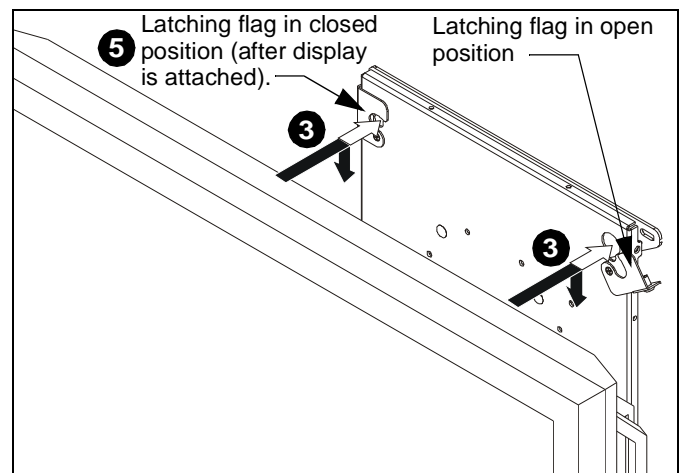

Figure 3
3. While supporting both sides of the display, align four mounting buttons on interface bracket or display with four mounting holes on MSP-JELPSW2. (See Figure 3)
5. Move latching flags to closed position around mounting buttons. (See Figure 3)